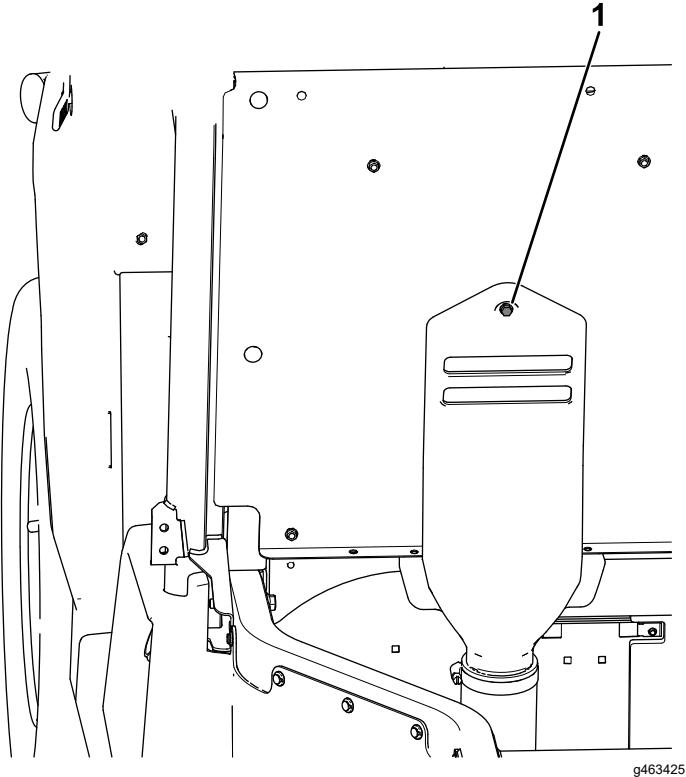

Figure 28
F. Insert the captive bolt attached to the CVT-intake hood into the hole shown on the seat panel (Figure 28).